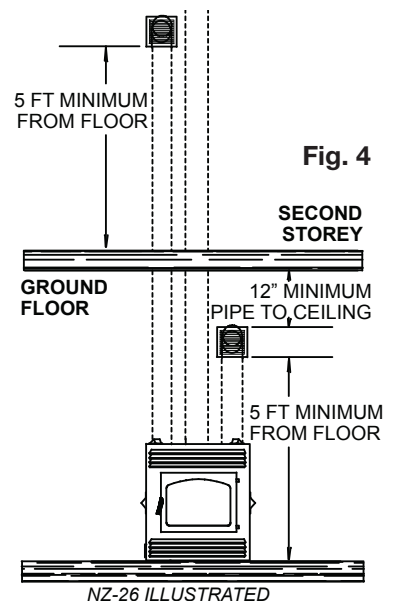

Fig. 4
6. Being careful not to compress or damage it, extend the liner to the required length (Fig. 4). If the final grille location requires more than 5 feet of liner, use extension kit NZ220-2, pipe coupler W175-0002, and vent support assembly W010-0067 (not supplied). Expose the liner, place through the framing, over the firestop spacer assembly and secure using 3 screws. Pull the sleeve up over the liner.